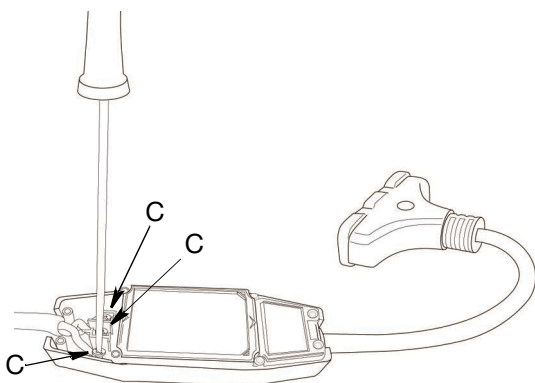

FIG. 11
3. Unscrew three Phillips #2 screws (C) and disconnect black, white, and green wires from GFCI terminals (FIG. 11).
2. Connect green wire from cord to green terminal from GFCI module. Connect black wire from cord to brass terminal. Connect white wire from cord to silver terminal. Re-tighten three Phillips #2 screws (C) (FIG. 11).